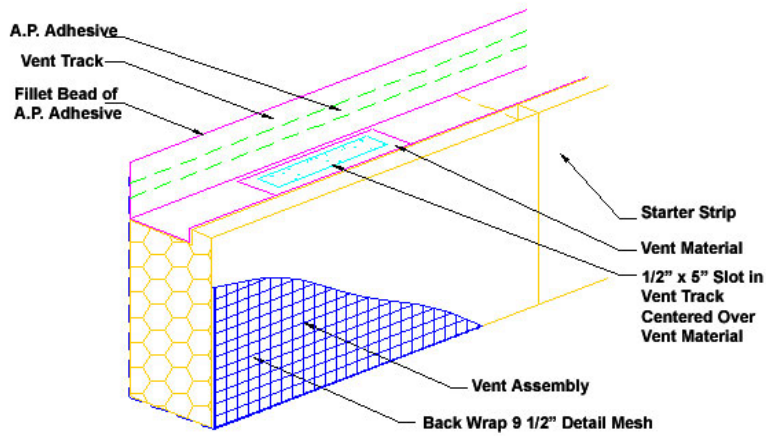

Fig. 10
7. Install the Dryvit Vent Track and Dryvit Track by applying a continuous horizontal bead of Dryvit's AP Adhesive on the wall side of the vertical nailing flange of the track and position over the Dryvit Starter Strip. When installing the Dryvit Vent Track the cut out (slot) must be located directly above the Dryvit Vent Assembly – Figure 10. Press firmly against the substrate to ensure firm and continuous contact between the adhesive and the wall surface. **NOTE: It is recommended that the surface of the Drainage Track and Vent Track be lightly sanded to improve adhesion of the Dymonic 100.**